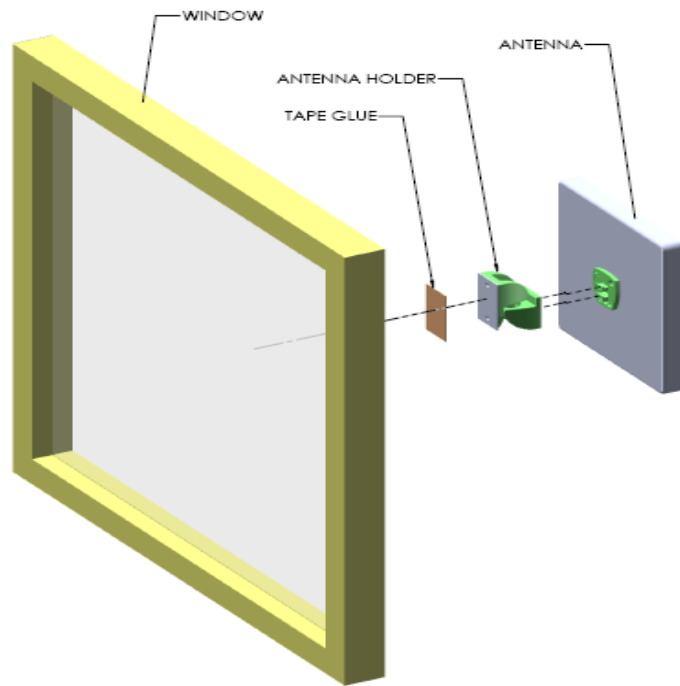

Figure 7: Installing donor antenna on window
1. Locate all the antenna's front bracket parts, as shown in Figure 7.